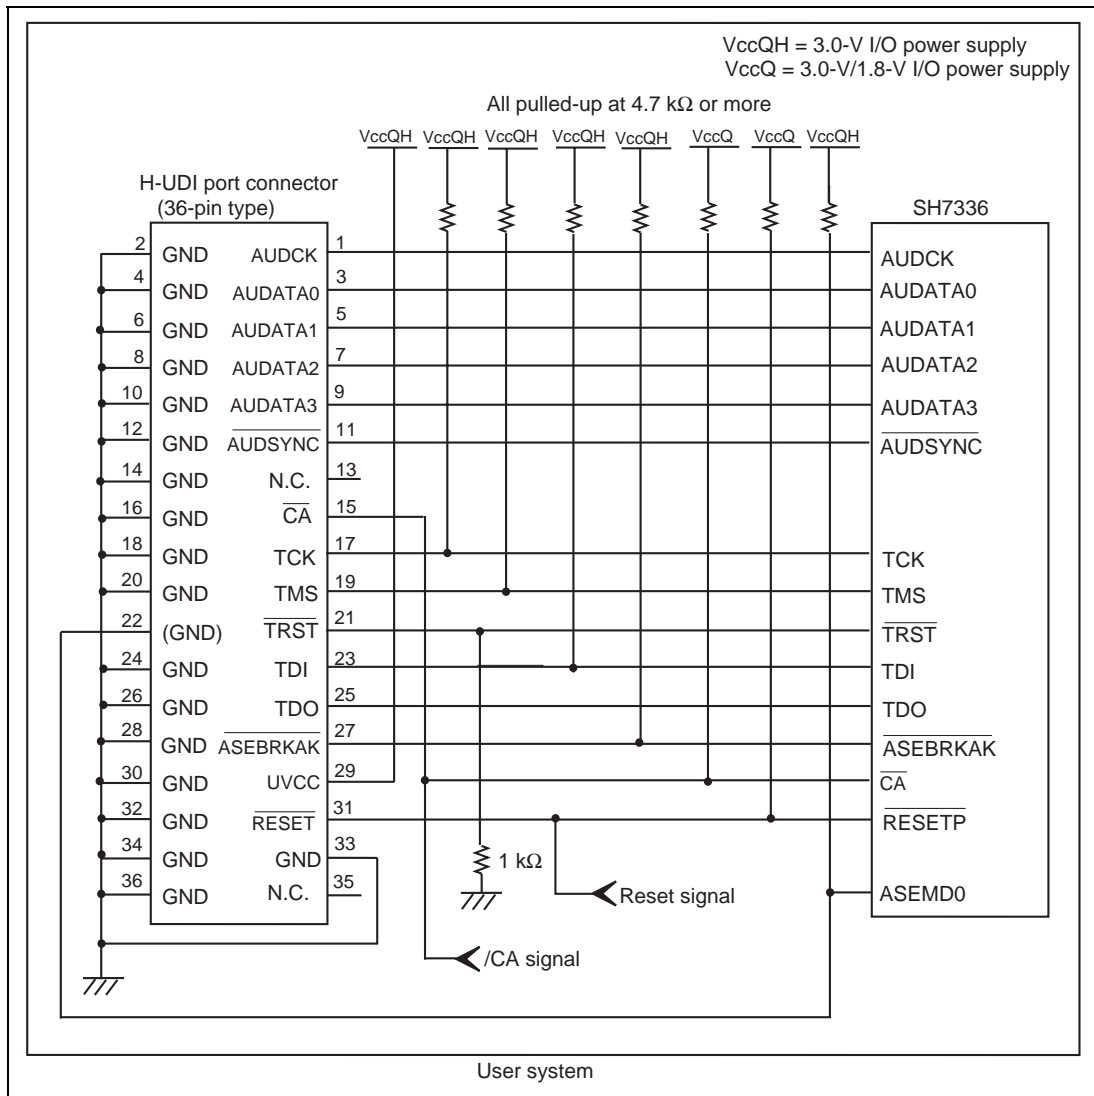

Figure 1.3 Recommended Circuit for Connection between the H-UDI Port Connector and MPU when the Emulator is in Use (36-Pin Type UVCC Connected)
Figure 1.3 shows a recommended circuit for connection between the H-UDI and AUD port connectors (36 pins) and the MPU when the emulator is in use.
(1) When the emulator is used: /ASEMD0 = 0
(2) When the emulator is not used: /ASEMD0 = 1
Figure 1.3 shows an example of a circuit that allow the /ASEMD0 pin to be GND (0) whenever the emulator is connected by using the user system interface cable.
8. Since the H-UDI and the AUD of the MPU operate with the VccQH, supply only the VccQH to the UVCC pin. Make the emulator's switch settings so that the VccQH will be supplied (SW2 = 1 and SW3 = 1) (as shown in figure 1.3).
When the circuit is connected as shown in figure 1.3, the switches of the emulator are set as SW2 = 1 and SW3 = 1. For details, refer to section 3.8, Setting the DIP Switches, in the Debugger Part of the SuperH™ Family E10A-USB Emulator User's Manual.